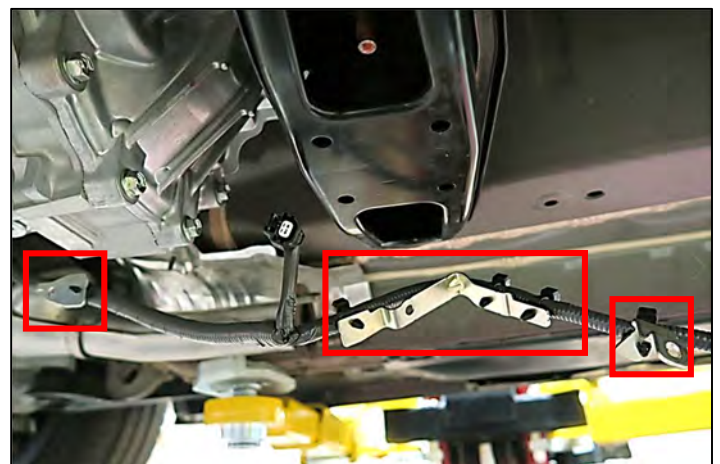

Figure 80
- Using a pair of pliers, depress the harness retainer tabs and remove the brackets shown in Figure 80.